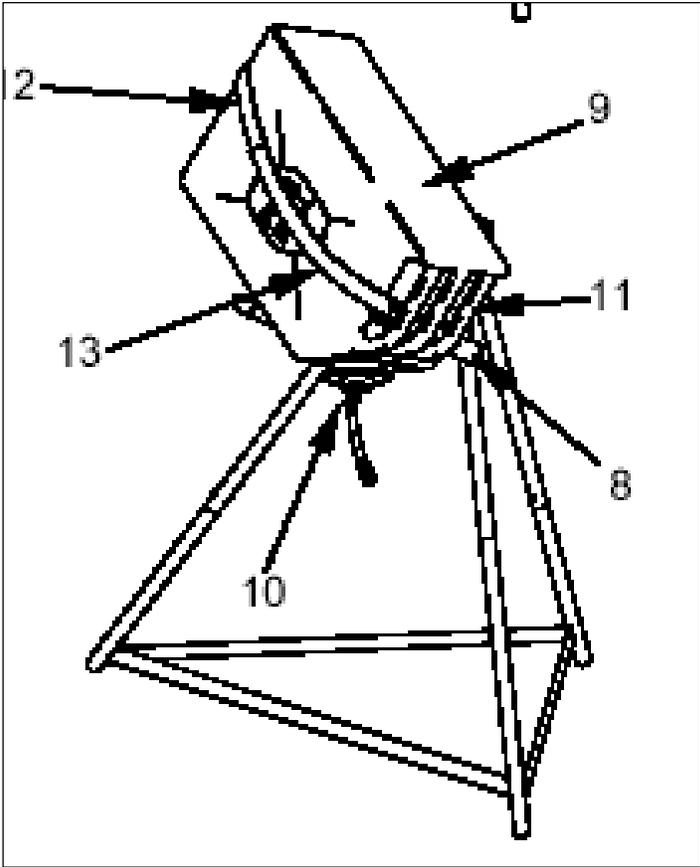

Figure 8
(5) Setting up the Fuel Can Stand (See Figure 8)